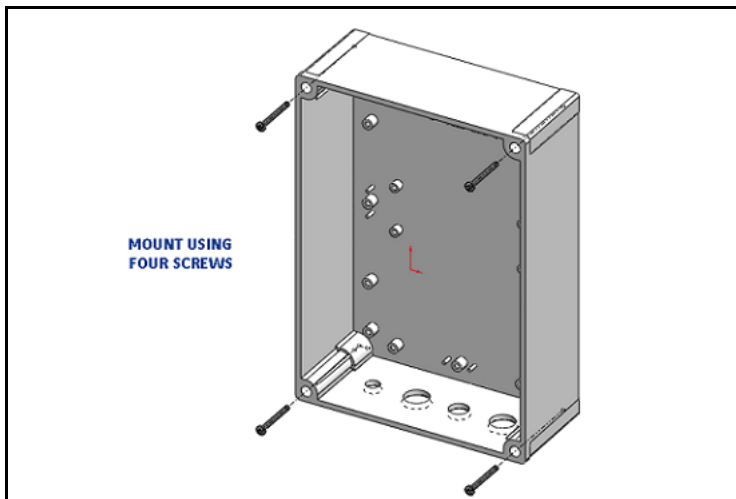

Figure 14: Mounting the Wall-Mount Enclosure
2. Mount the analyzer as shown in Figure 14 below.